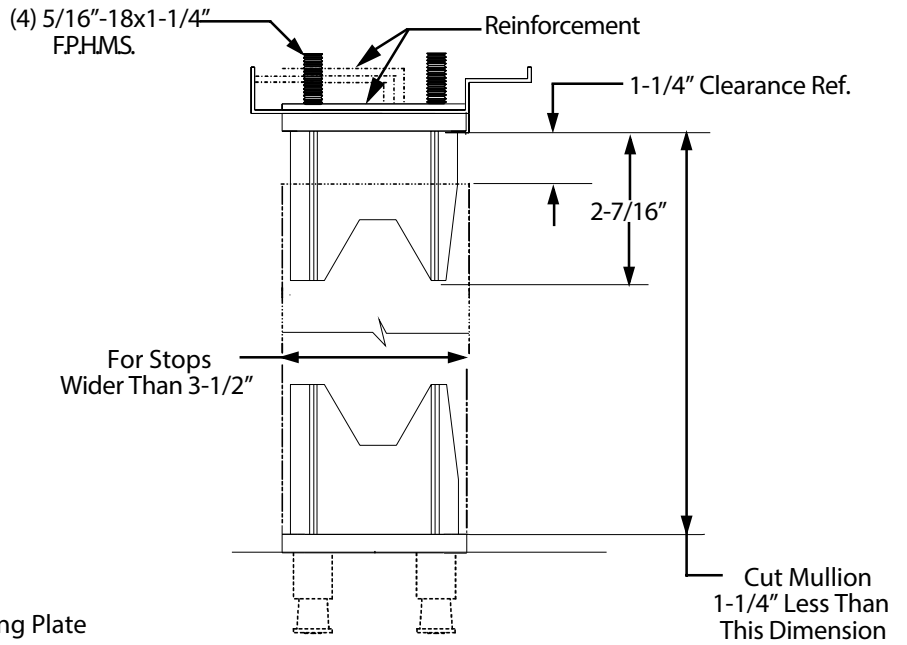

Figure 4
- 3 Line up and install top mullion fitting and electric fitting plate with center of door opening and flush with closed doors. If stop is less than 3-1/2" wide, a filler block must be provided by others. See Figures 4 and 5
- 4 Cut mullion body from the top to provide clearance as shown in Figure 4. Be sure mullion is seated on bottom fitting.